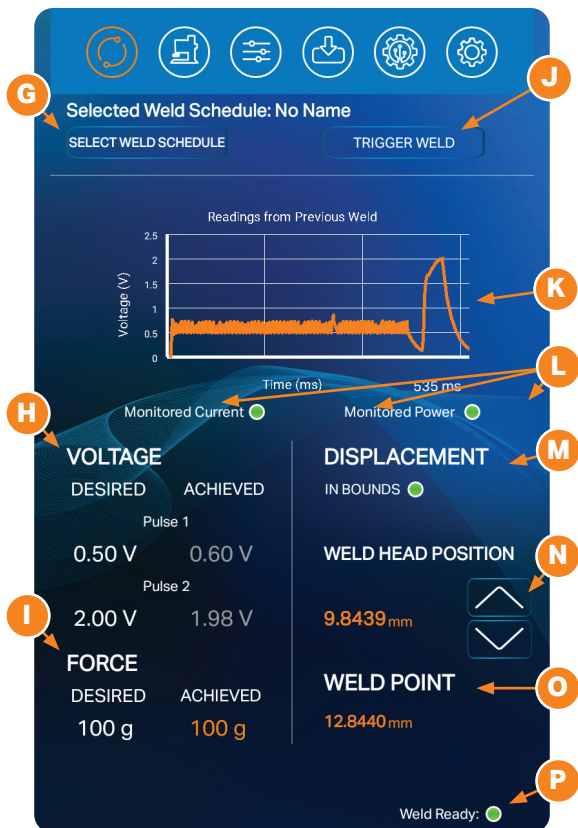

Figure 12.1. The Run Screen.
The Run Screen, seen in Figure 12.1, displays current settings relating to the weld discharge and weld head. Additionally, the achieved results from the previous weld are displayed here as well. The Run Screen is equivalent to a “home” screen and should be the active screen when triggering a weld.
To quickly load an existing weld schedule from the Run Screen, tap the Select Weld Schedule button (G) in Figure 12.1 and select the schedule from the pop-up window. Existing weld schedules can also be loaded in the Save/Load Screen, further explained on page 22.
A graph (K) at the top of the Run Screen in Figure 12.1 displays a visual representation of the last recorded weld discharge. Weld voltage/current/power (dependent on what is selected in the comparator screen) is displayed on the Y axis, and weld discharge length (time) is displayed on the X axis.